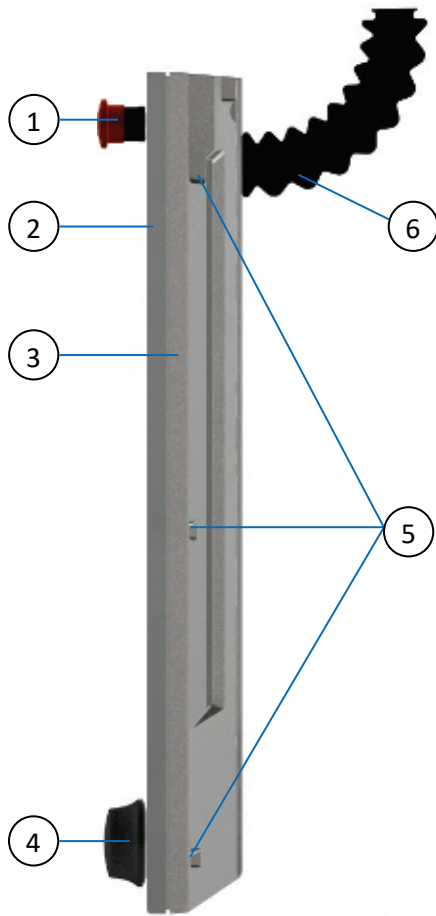
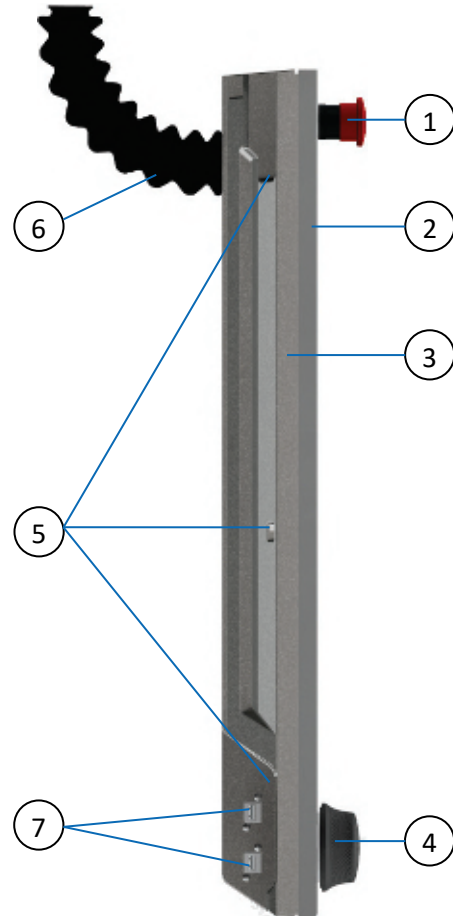

Fig. 21: Right side of the CC300 operator panel
Fig. 22: Left side of the CC300 operator panel
**Legend for Fig. 21 and Fig. 22:**
In a cavity at the left side of the aluminum cover, two USB 3.0 ports (see also Fig. 22, Pos. 7) are located. The cavity is deep enough that plugged-in USB sticks will not restrain the tilting mechanism of the CC300 operator panel.